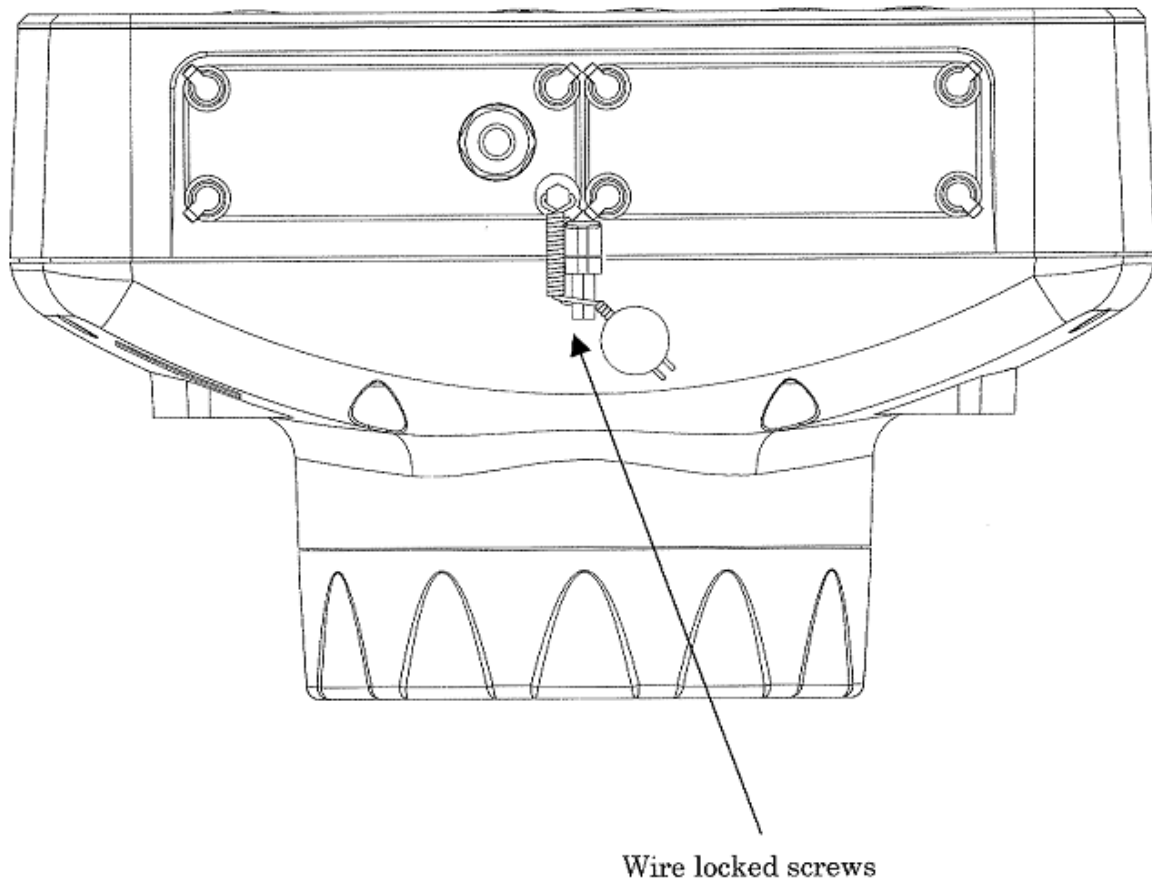

Figure 5 Sealing diagrams
A wire and lead seal sealing the two entry ports on the bottom of the instrument prevent access to the load cell, main circuit board and calibration lock switch. (see Figure 5).
- Figure 5 Sealing diagram